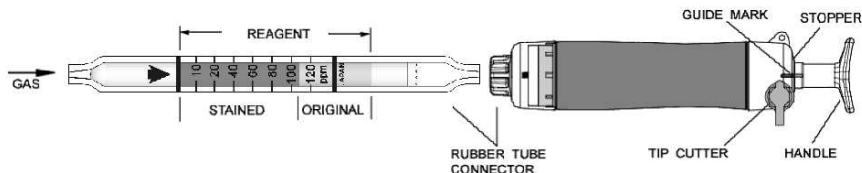

Fig.1
- ① Break both ends of the detector tube.
- ② Insert the detector tube into the aspirating pump securely as shown in Fig.1. (Arrow mark shall point to the pump.)
- ③ Align the guide marks on the shaft and stopper of the aspirating pump.
- ④ Pull the pump handle at a full stroke until it locks and wait for 1.5 minutes or until the completion of sampling is confirmed with the flow indicator of the pump. (See descriptions about the flow indicator in the instruction manual of the pump.)
- ⑤ On completion of sampling, read the scale at the maximum point of the stained layer.
- ⑥ When the concentration is below the scale range, 2 pump strokes can be used to determine concentrations of 5 to 60 ppm. Then multiply the reading value by 0.5.